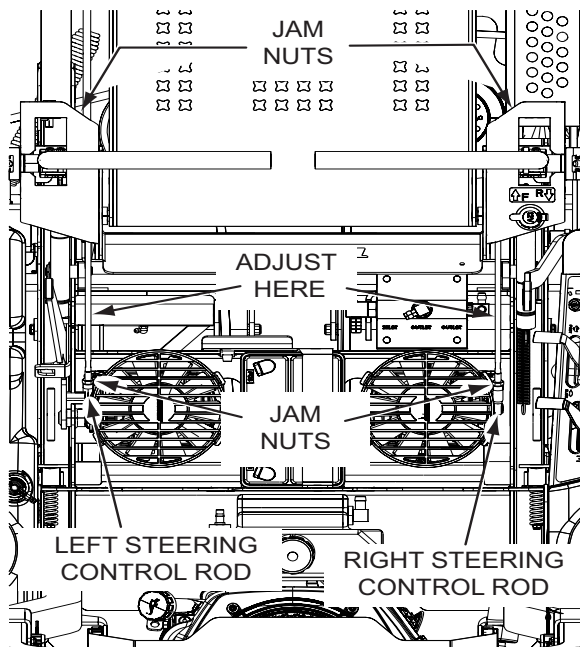

Figure 6-3. Steering Control Rod Adjustment
4. Adjust the RH wheel by loosening the jam nuts on the steering control rod and turning the rod until the drive wheel turns in the forward direction. Turn the rod back until the drive wheel stops moving. Turn the rod an additional 1/2 turn. See Figure 6-3.
5. Tighten the jam nuts and repeat for the LH wheel. See Figure 6-3.